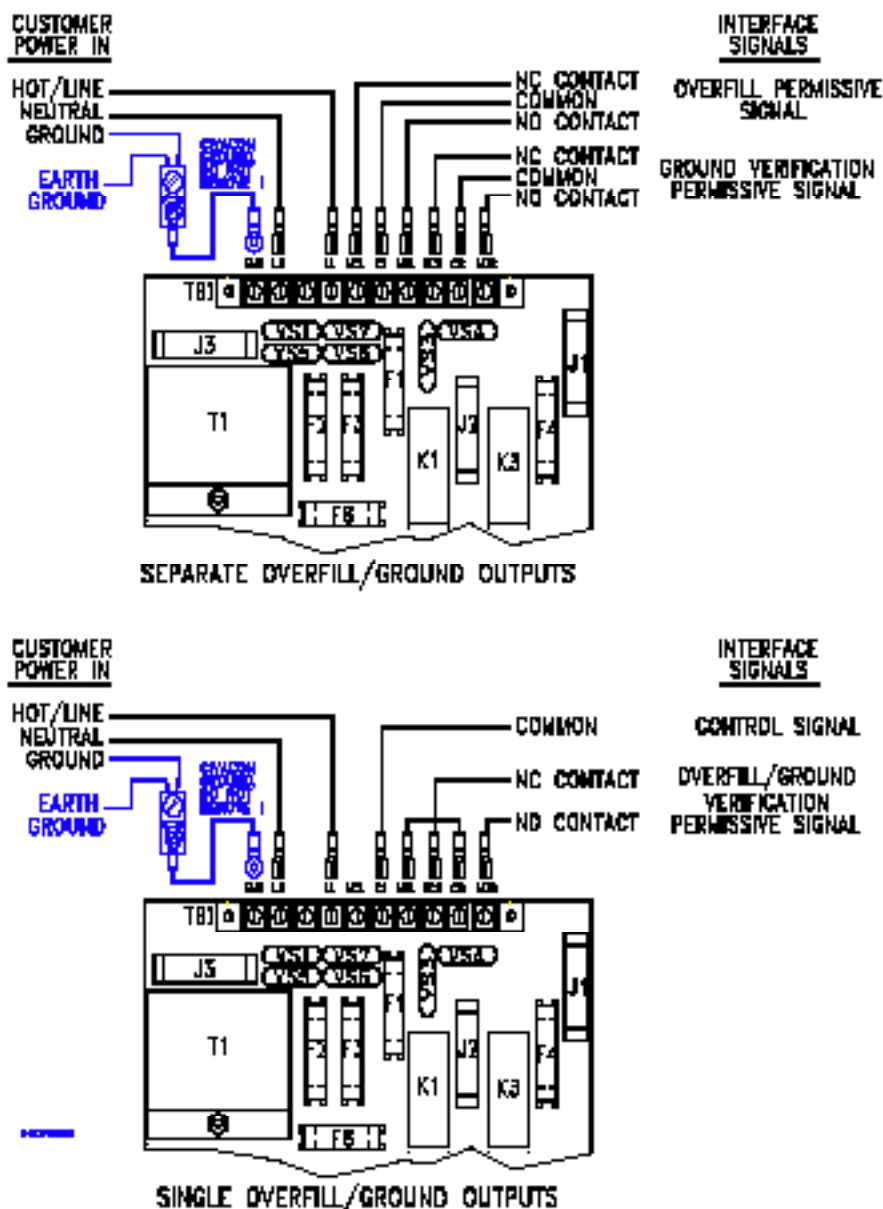

FIGURE 3 - POWER WIRING
Three terminals are provided for the overfill permissive signal on the monitor. These are C1 (COMMON 1), NC1 (Normally Closed 1), and NO1 (Normally Open 1), Form C type contacts. The proper control signal source must be wired to these terminals. It is suggested that the control signal source be wired into the C1 (COMMON 1) terminal, as it is the fused control terminal. The wire going to the controlled device should then be connected to the NO1 (or NC1 if applicable) contact of the terminal strip. See Figure 3.
Three terminals are also provided for the ground verification permissive signal. These are C2 (COMMON 2), NC2 (Normally Closed 2), and NO2 (Normally Open 2), Form C type contacts. The proper control signal source must be wired to these terminals. It is suggested that the control signal source be wired into the C2 (COMMON 2) terminal, as it is the fused control terminal. The wire going to the controlled device should then be connected to the NO2 (or NC2 if applicable) contact of the terminal strip. See Figure 3.
If two separate control outputs are not desired, the two outputs may be combined into a single output. This is accomplished by wiring the control signal source to the C1 (COMMON 1) terminal, connecting a jumper between the NO1 (Normally Open 1) terminal and the C2 (COMMON 2) terminal. The wire going to the controlled device should then be connected to the NO2 (or NC2 if applicable) contact of the terminal strip. See Figure 3.
The monitor must be wired according to Figure 3.
1. Before applying AC line power to the 81/83/84X0 Series Rack Monitor, perform a visual inspection of the power and control wiring according to Figure 3.